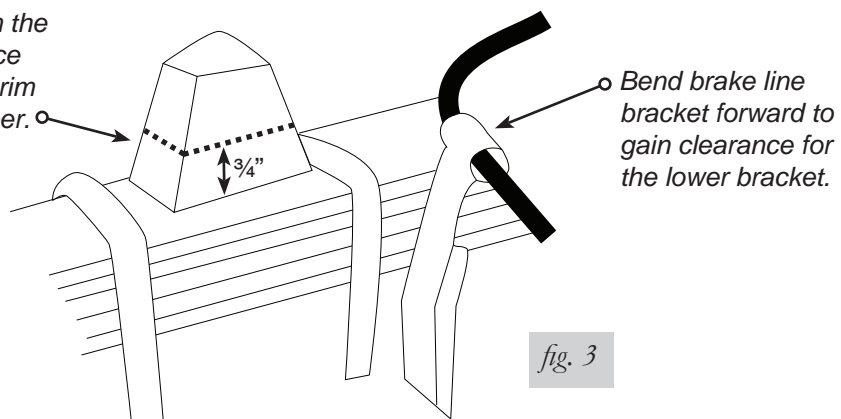

fig. 3
2. Bend the emergency brake cable bracket forward slightly on both sides of the vehicle (fig. 3).
3. It will be necessary to trim the stock jounce bumper to gain clearance for the air spring assembly's lower bracket. Measure up from the base 3/4" and mark a line on the jounce bumper. Using a box cutter or equivalent, cut the top of the jounce bumper off (fig. 3).